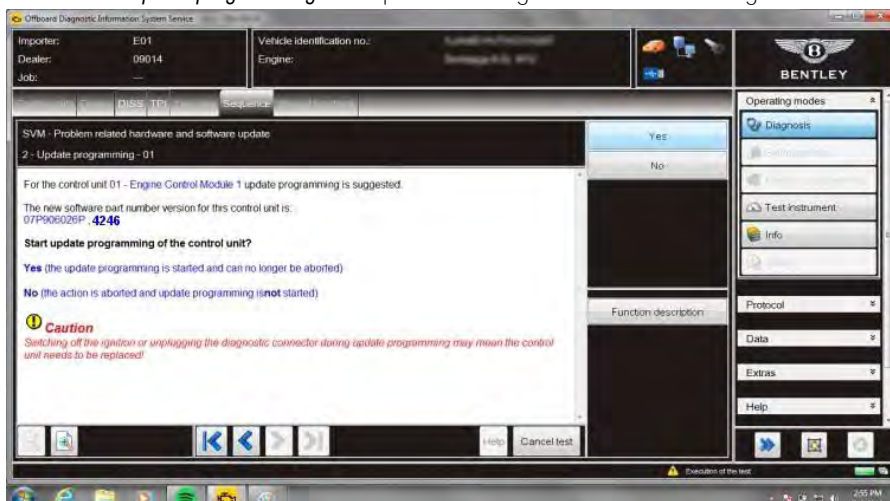

Figure 5
20. Select **Yes** at **Update programming 01** to update 01 – Engine control module - Figure 5.